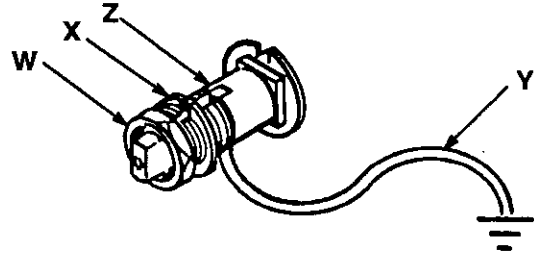

Fig 1
1. *Pump*: use a ground wire and clamp. See Fig 1.
To ground the pump, loosen the grounding lug locknut (W) and washer (X). Insert one end of a 12 ga (1.5 mm²) minimum ground wire (Y) into the slot in lug (Z) and tighten the locknut securely. See Fig 1. Connect the other end of the wire to a true earth ground. See the **ACCESSORIES** section to order a ground wire and clamp.